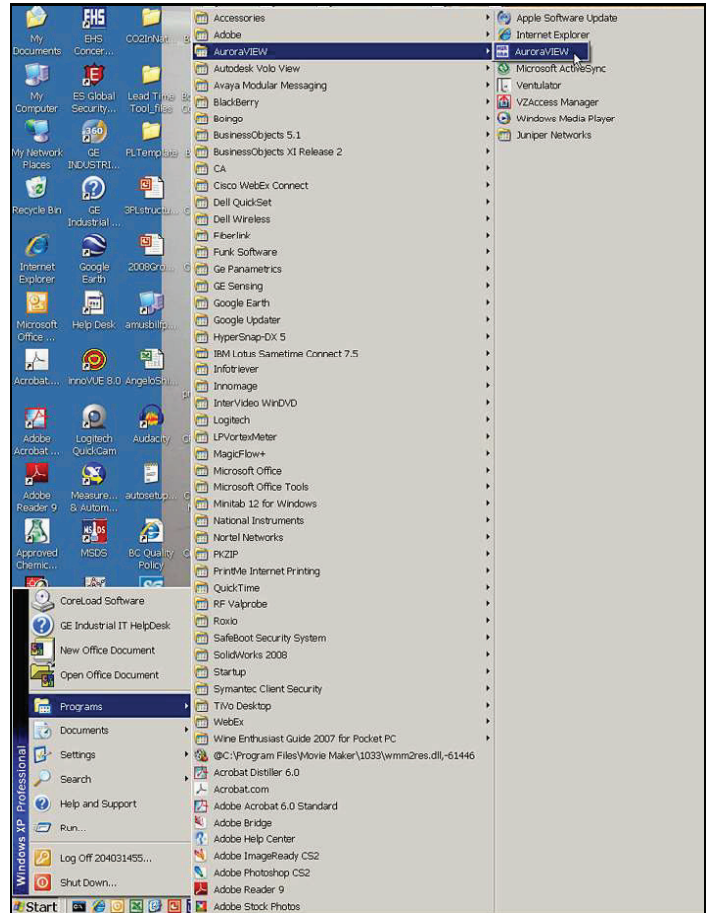

Figure 28: AuroraView in programs menu
1. From the Start menu, click Programs → AuroraView → AuroraView (see *Figure 28* below).